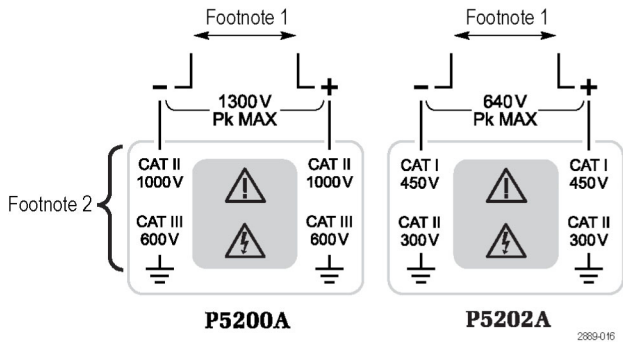

Figure 1: Specification table footnotes referring to the probe input limits on the P5200A and P5202A probes
- Beyond these limits, the output could be clipped. (See Figure 1 on page 10.)
- The Common Mode and input voltage-to-earth ratings are the maximum ratings of each input lead (+/-) to ground. (See Figure 1 on page 10.)